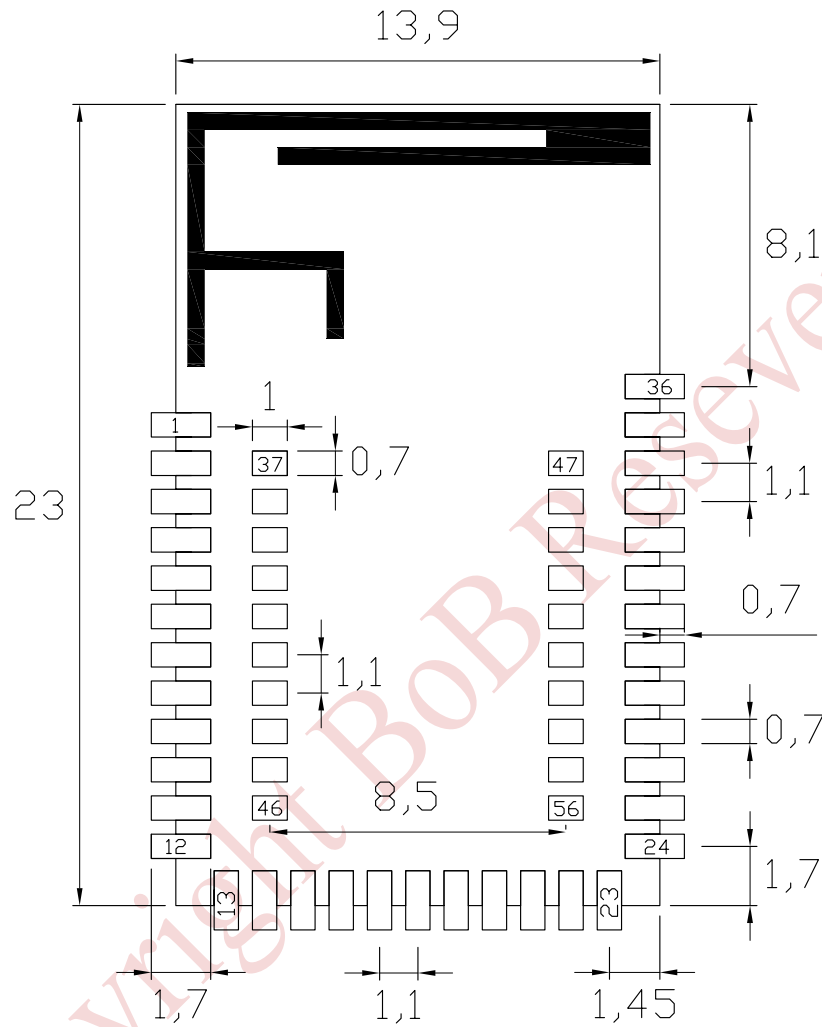

Figure 5.3 Recommended PCB footprint
The recommended PCB footprint of BB840F(S) is shown in Figure 5.3.